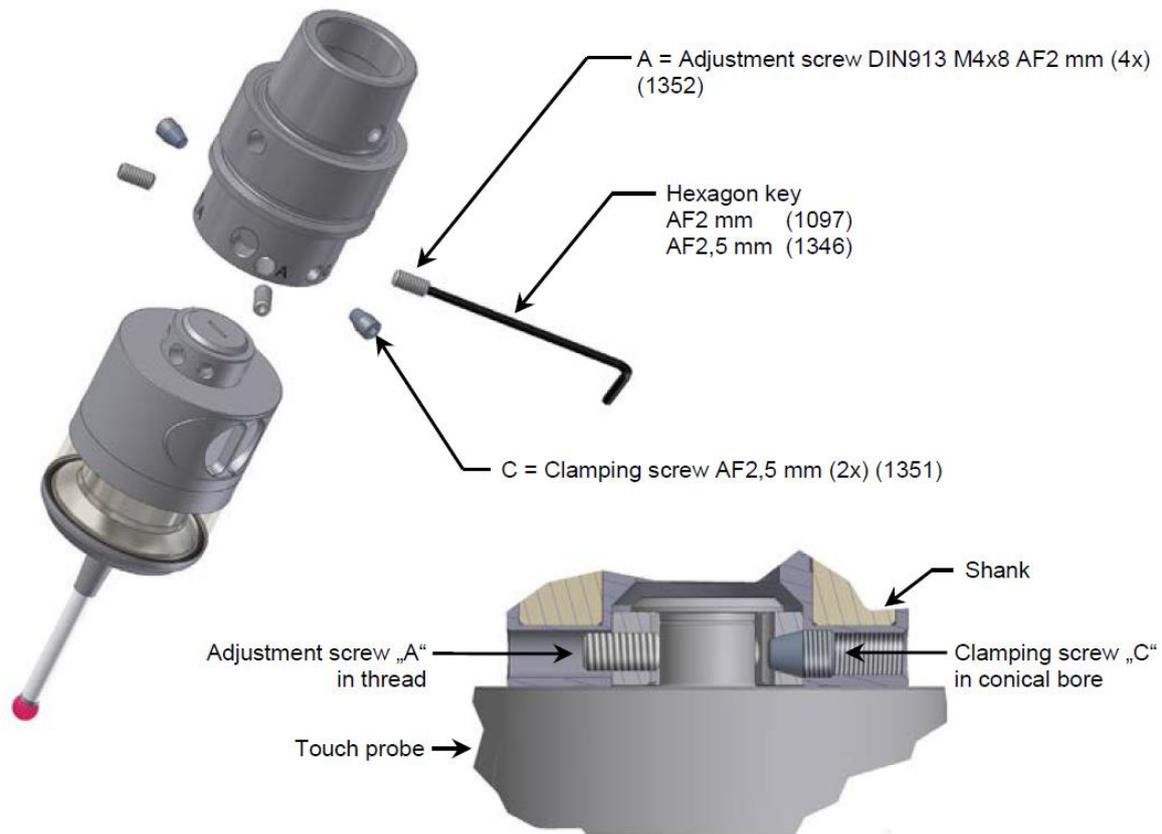

Figure 7 Mounting/dismounting the shank
- ☞ Remove all **A** and **C** screws (refer to Figure 7).